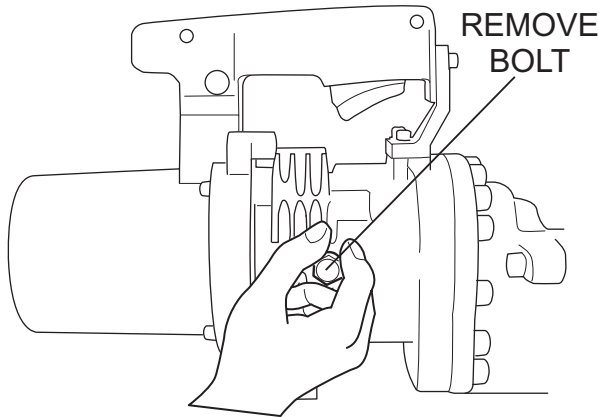

Figure 7. Removing Oil Fill Bolt
1. Loosen oil fill bolt with the supplied open-end wrench. Remove oil fill bolt and lay cutter to allow oil to drain out. See Figure 7.